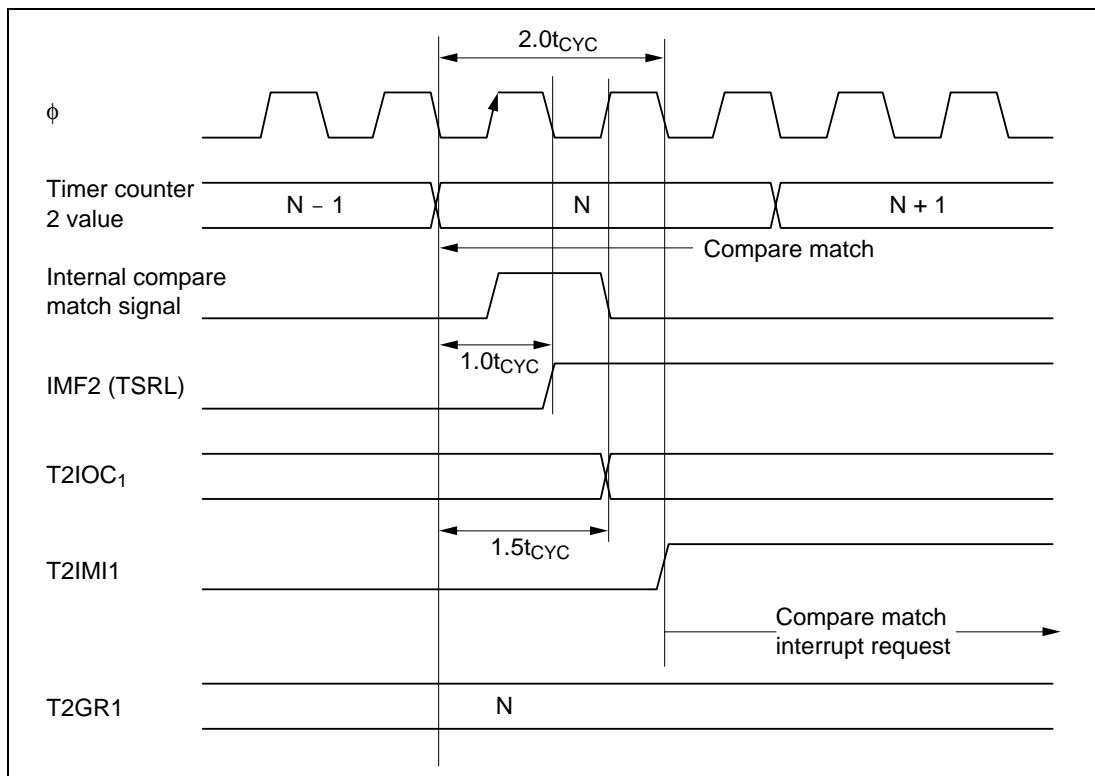

Figure 11-46 Timing from Incrementation to Compare Match Interrupt Request
**(1) Output Compare Timing:** Figure 11-46 shows the timing from counter incrementation to generation of a compare match interrupt request. One system clock cycle ( $1.0t_{CYC}$ ) after timer counter 2 matches the T2GR1 value (N), the IPU sets the input capture/compare match flag (IMF). A compare match signal (T2IOC1) is output  $0.5t_{CYC}$  after IMF is set. The interrupt request (T2IMI1) is generated  $0.5t_{CYC}$  after the T2IOC1 output. The T2IMI1 interrupt request therefore comes  $2.0t_{CYC}$  after the counter is incremented to N.